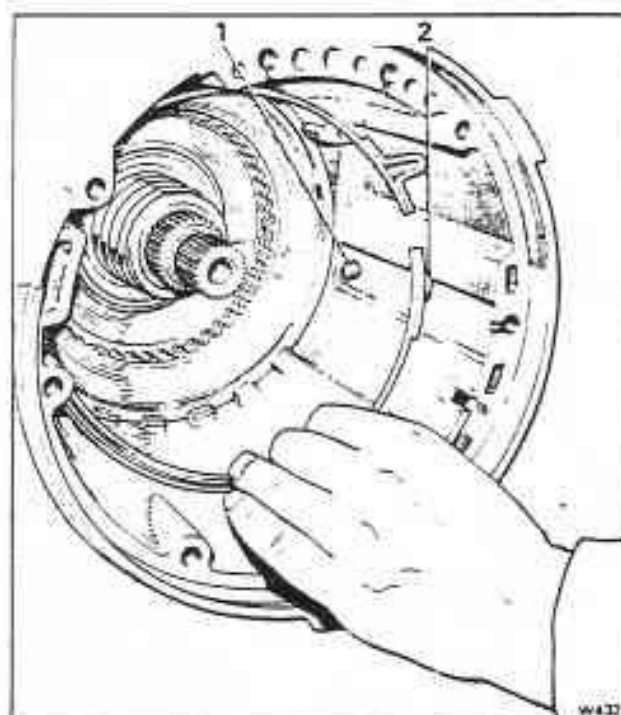

Fig. T18-12 Fitting the front band
1. Fit the front band so that the band anchor hole fits over the band anchor pin and the band apply lug faces the servo hole (see fig. T18-12).